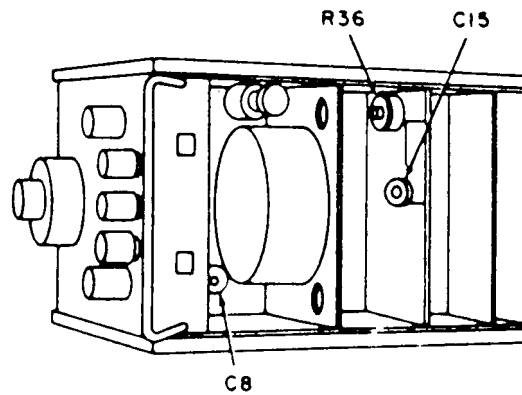

Figure 4. Test instrument bottom view.
- (1) Set **RANGE** switch to **X10K**, **FREQ** dial to **5**, and **VERNIER** control to midrange.
- (2) Adjust C8 (fig. 4) for a 50-kHz indication on frequency counter (R).
- (3) Set **FREQ** dial to **56** and adjust C15 (fig. 4) for a 560 kHz indication on frequency counter.
On models that do not include **56** on **FREQ** dial, set **FREQ** dial to **50** and adjust C15 (fig. 4) for a 500 kHz indication on frequency counter (R).
- (4) Set **RANGE** switch to **X1** and **FREQ** dial to **5**.
- (5) Repeat a (2) through (5) above.
- (1) Set **RANGE** switch to **X100** and **FREQ** dial to **10**.
- (2) Adjust R36 (fig. 4) for minimum distortion as indicated in audio analyzer (R).